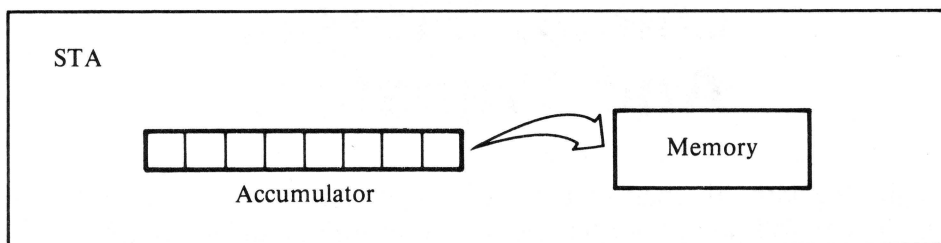

Figure 8-2. Store accumulator in memory
- STA — Stores accumulator in memory. This transfers the contents of the 6502's accumulator register into a specified byte of memory (see Figure 8-2).